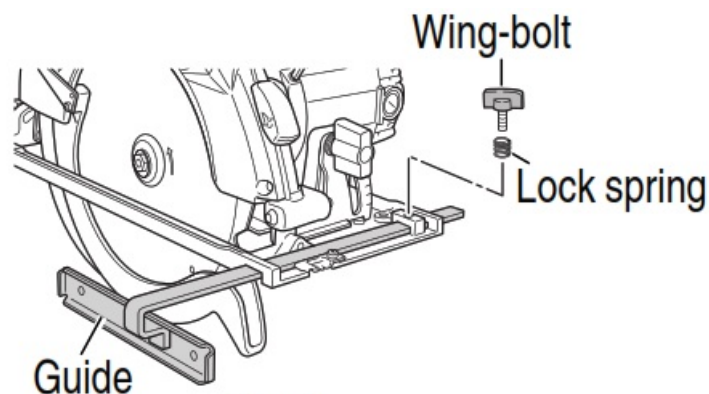

Fig. 8
4. Regulating the guide (Fig. 8) The cutting position can be regulated by moving the guide to the left or right after loosening its wing bolt. The guide may be mounted on either the right or left side of the tool